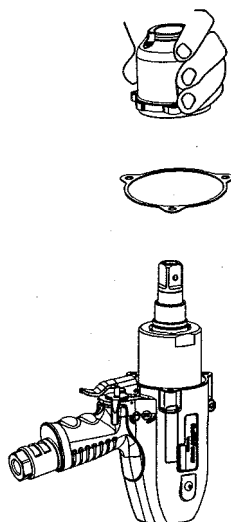

Fig. 189
- (b) Put the pulse unit, washer, pulse unit housing in order. (Fig. 189)